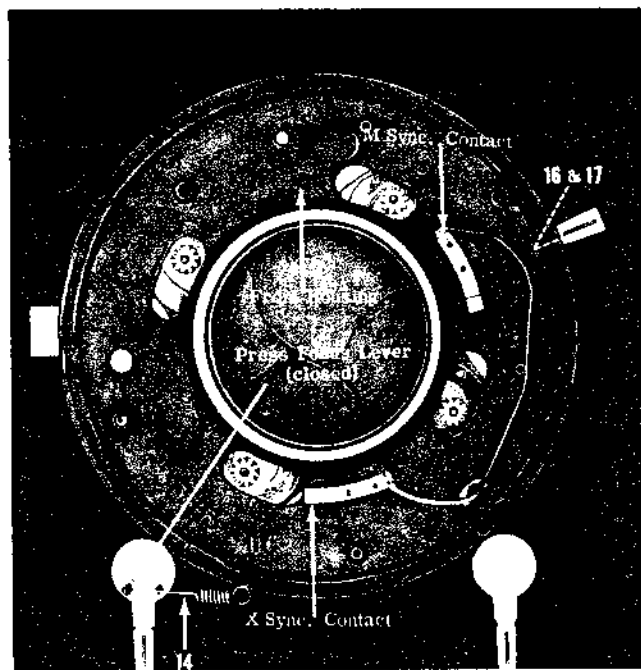
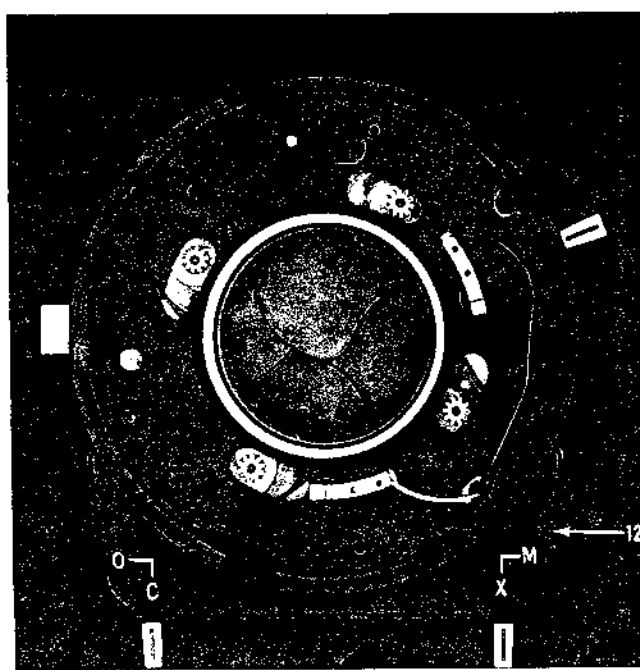
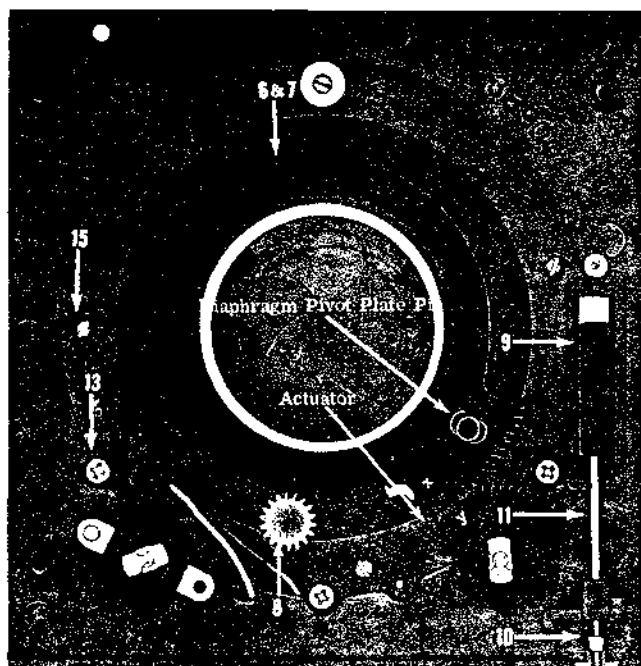

Figure 8.
Figure 9.
Figure 10.
Trip link assembly (11, Figure 10) not adjusted properly (Model 2A only)	Adjust (see para K)
9. Do not remove trip slide (9, Figure 10), crank follower (10) or trip link assembly (11) from shutter unless there is specific damage and one of these components requires replacement.
10. When removing front housing (Figure 8) ball (16) will be loose and under tension from spring (17).
- g. Apply a light coat of lubricant (39484P9) to four shutter leaf eccentrics (19). Remove excess lubricant so that only a light film remains. Assemble one eccentric to each of the four posts on shutter leaf plate assembly and washer(s) (18), used as required, over each eccentric. (In repair, it is suggested that three be used on each post.)
- h. Apply thin coat of lubricant (39484P8) to steel ball (16, Figure 8). Insert detent spring (17) and steel ball into lever portion of diaphragm plate assembly. Depress ball and spring while positioning front housing to rear housing. Insert contact leads thru holes in front and rear housings. Apply adhesive (39490P2) to threads of four screws (15, Figure 10) and secure front housing. Check eccentrics for free movement by rotating each eccentric thru a 15° arc. If eccentric binds or moves with difficulty, remove one of the washers by reaching thru the slot in the housing with a tweezers. Recheck movement and if necessary remove the second washer.
k. Assemble press focus spring (14, Figure 8) to press focus lever. Press focus lever is shown in the closed position. Maintain closed position throughout reassembly.
m. Position front cover (12, Figure 9) and secure with three screws (13, Figure 10).
n. On Model 2A assemble trip link assembly (11), crank follower (10) and trip slide (9).